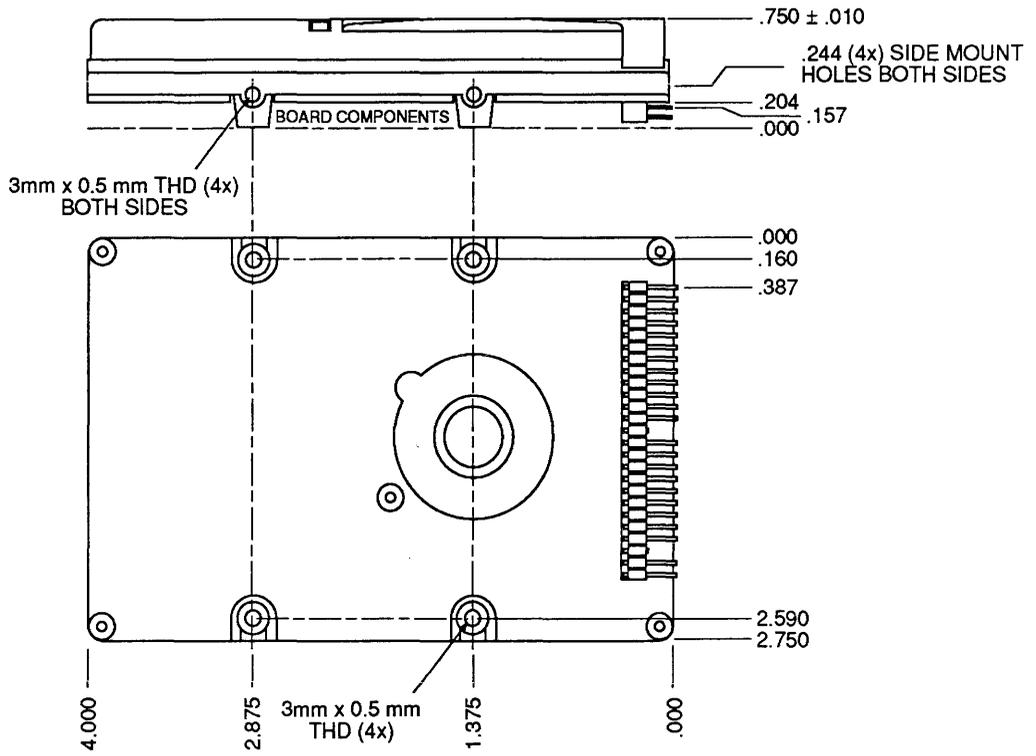

Figure 3. Mounting Configuration
Four (4) side mounting points and four (4) bottom mounting points are provided to the customer. The drive is mounted using 3mm x 0.5mm thread screw. The screw insertion depth should not exceed 4mm into the mounting holes. The system integrator should allow ventilation to the drive to ensure reliable drive operation over the operating temperature range. The drive may be mounted in any attitude. See Figure 3.